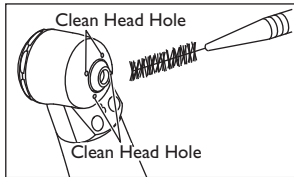

Fig. 6
- 1) Brush off the debris at the clean head holes. (Fig. 6) Do not use a wire brush.